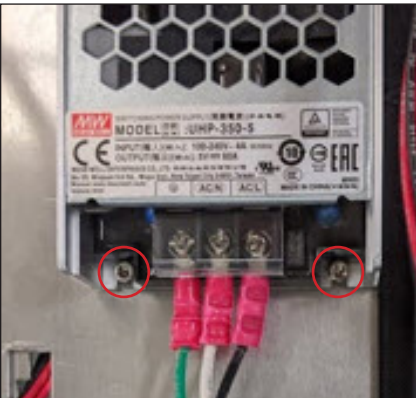
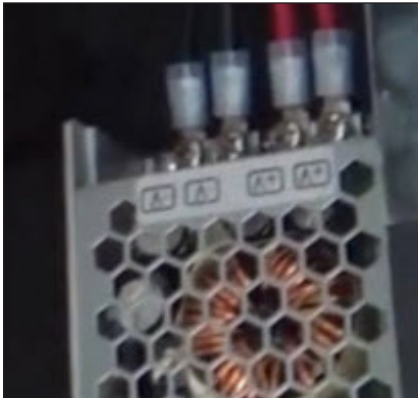

Figure 8: Three-Ring Terminals
Figure 9: Four-Ring Terminals
- 2. Remove the three-ring terminals from the AC side of the power supply and the four-ring terminals from the DC side. Refer to **Figure 8** and **Figure 9**.
- 3. Use a 2.5 mm Allen wrench to remove the screws from each of the four corners of the power supply and then remove the power supply. Refer to **Figure 8**.